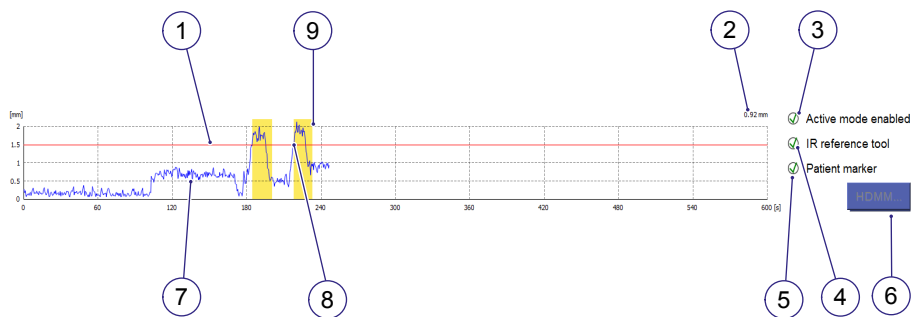

Figure 5.44 HDMM tracking graph
- 4 If the check mark for IR reference tool (4) or patient marker (5) does not appear (see Figure 5.44), do as follows: